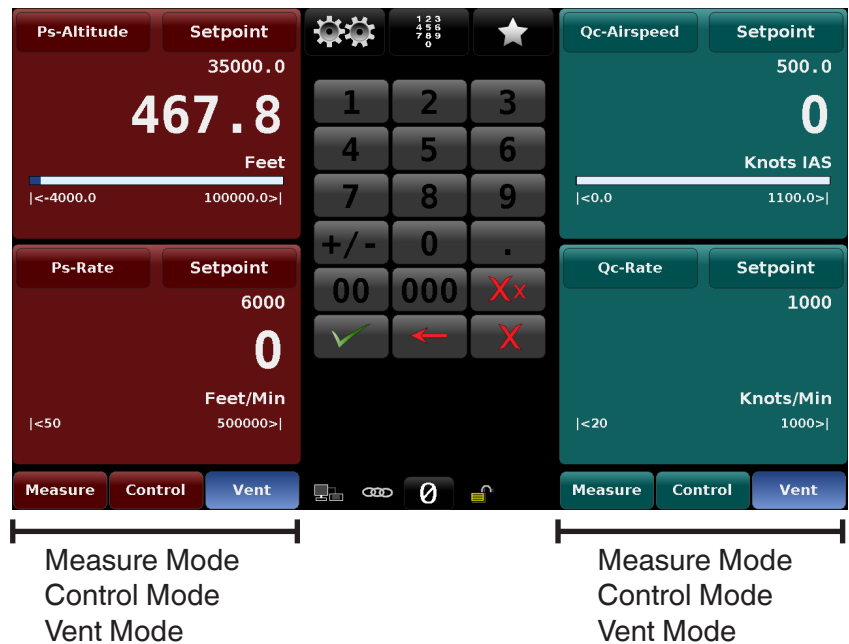

Figure 6.2.13 - Operating Modes
When the instrument is turned off all solenoids revert to their un-powered state: normally open (NO) or normally closed (NC) as shown on schematics in this section. (See Figure 6.2.13.4)